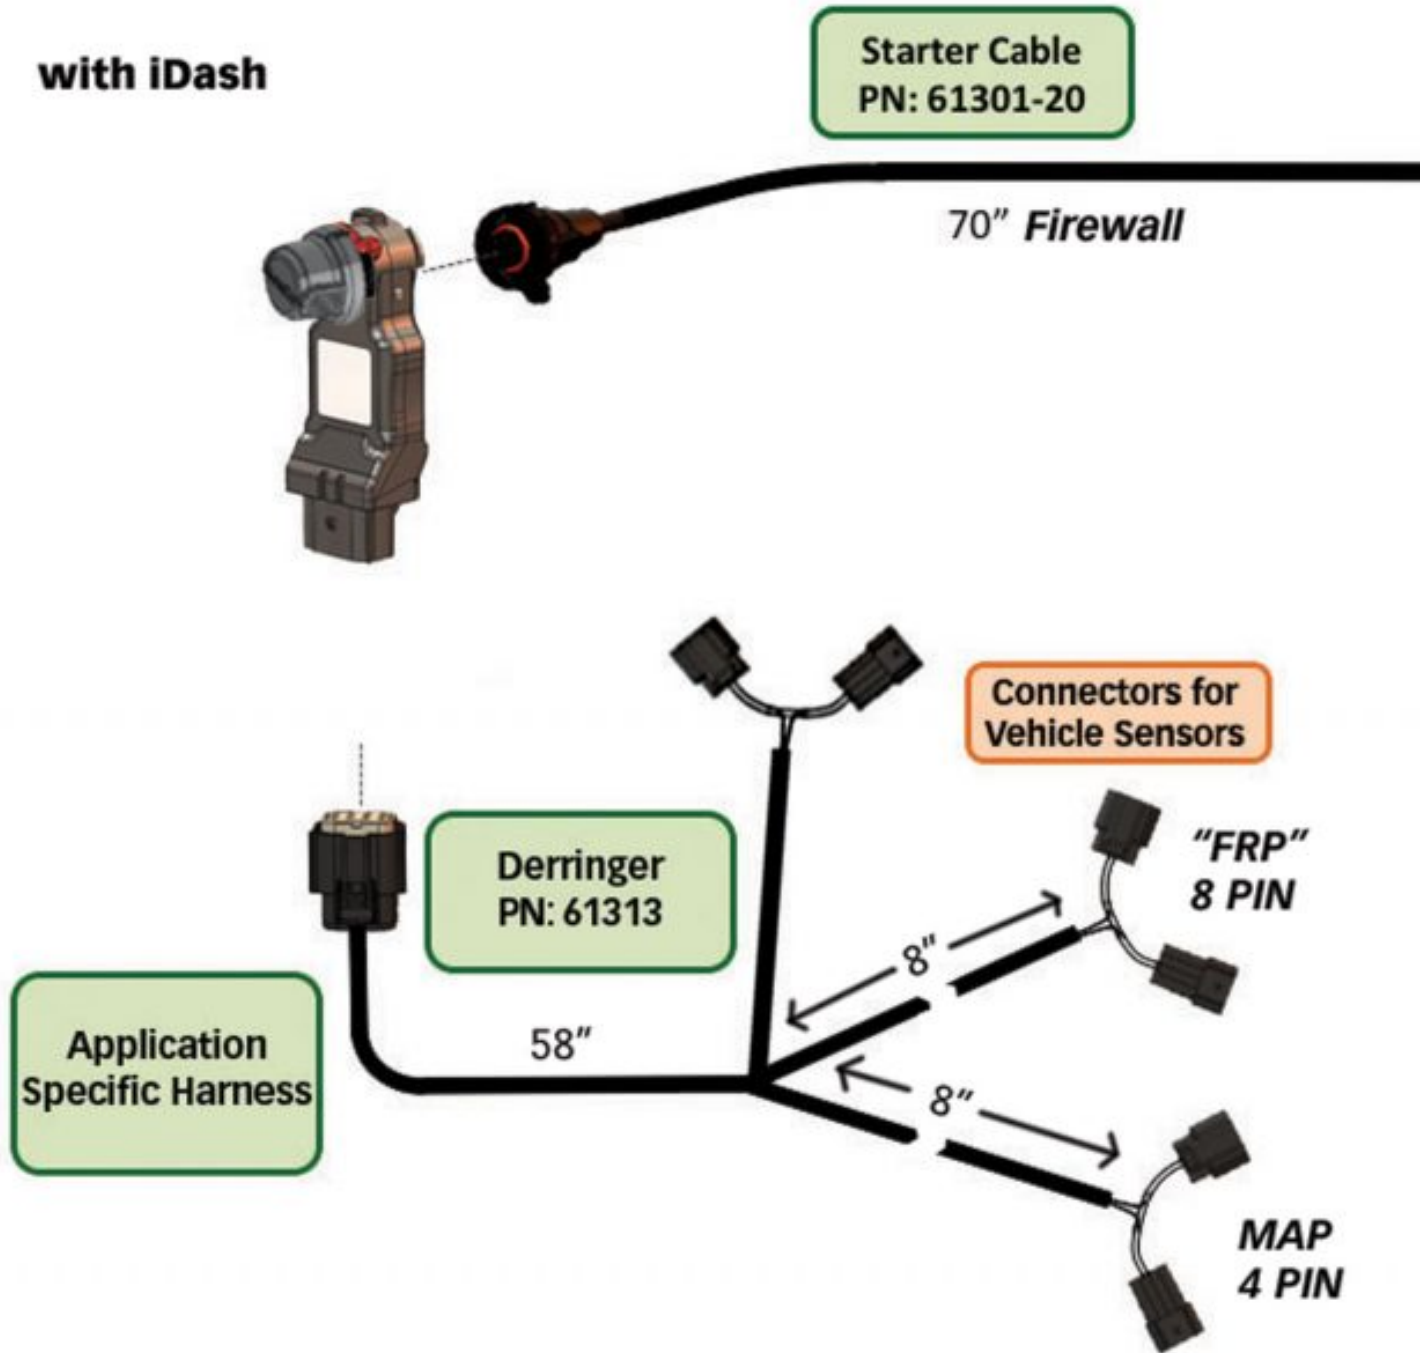

Figure 1.3-1
1. Connect the Derringer Module to the Derringer Sensor Harness and the Started Cable. See **Figure 1.3-1**.